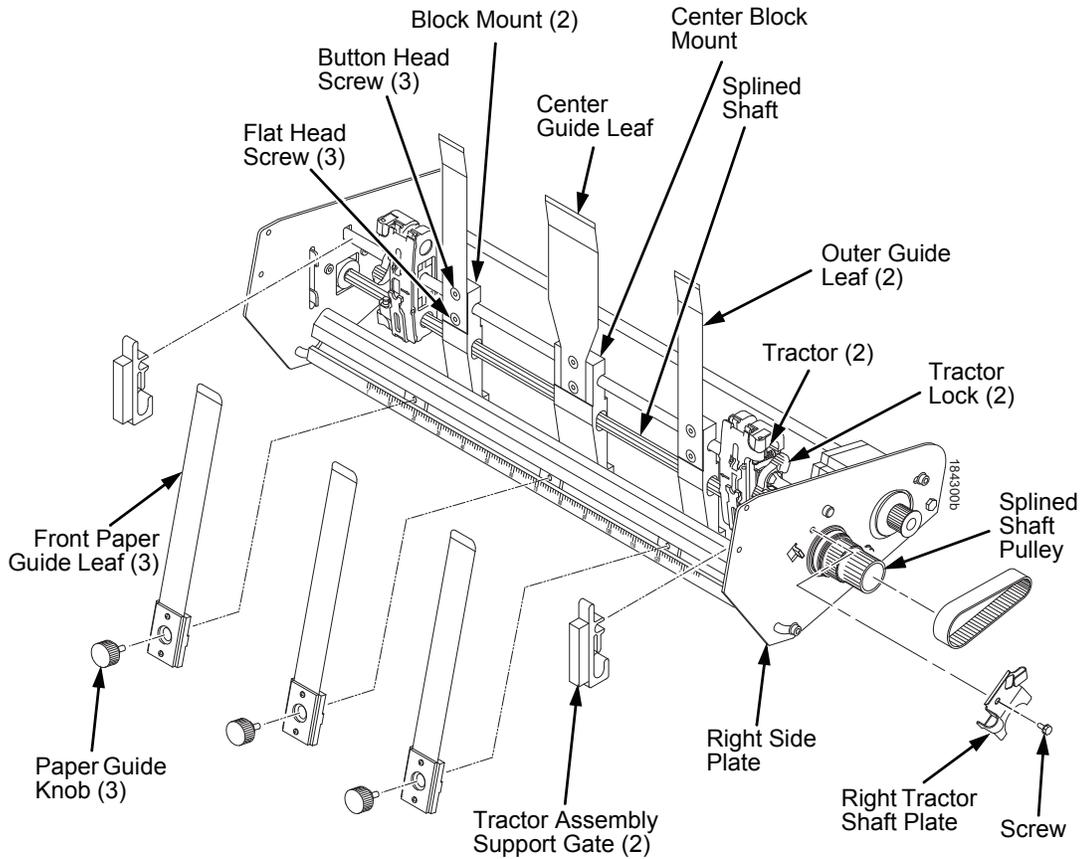
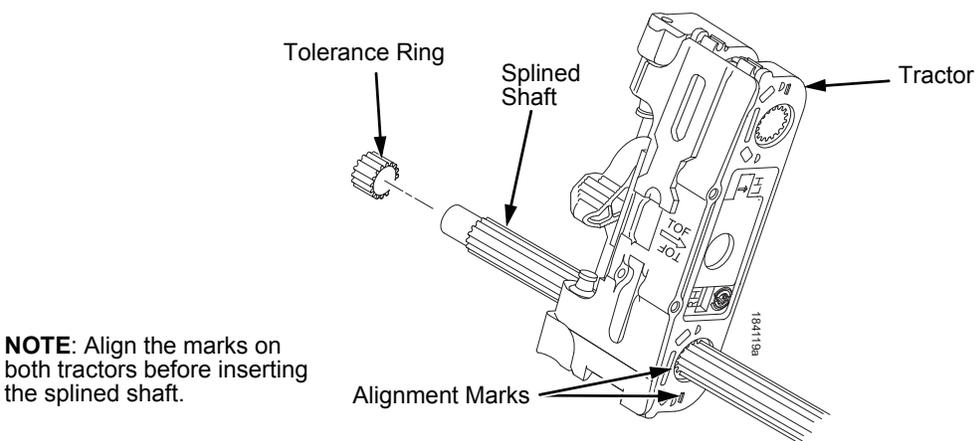

Figure 13. Removing the Paper Leaf Guides and Tractor Assembly Support Gates
Figure 14. Splined Shaft and Tractor Installation
2. Remove the center paper guide knob and center paper guide leaf. (See page 453, Figure 13.)
3. Remove the top button head screw, bottom flat head screw, and center guide leaf. (See page 453, Figure 13.)
2. Remove the left paper guide knob and the left, front paper guide leaf. (See page 453, Figure 13.)
3. Remove the top button head screw, bottom flat head screw, and left outer guide leaf. (See page 453, Figure 13.)
5. Remove the paper guide knobs and front paper guides leaves. (See Figure 13.)
7. Remove the screw securing the right tractor shaft plate and the tractor shaft plate. (See Figure 13.)
8. Slide the splined shaft out of the sealed ball bearing in the left tractor shaft plate and remove the tolerance ring from the left end of the splined shaft (page 468, items 9, 10, 15, and 17).
9. Grasp the splined shaft pulley and slide the splined shaft to the right, out of the tractors and right side plate. (See Figure 13.)
1. Position the splined shaft so the alignment marks are at the bottom on both tractors. (See Figure 14.)
2. Slide the splined shaft through the right side plate, tractors, and block mounts. Make sure the same spline passes the marked groove on each tractor. (See Figure 14.)
3. Install the tolerance ring on the left end of the splined shaft. (See Figure 14.)
4. Insert the tolerance ring lead-in portion into the sealed ball bearing in the left tractor shaft plate while sliding the ball bearing into the right side plate (page 468, items 9, 10, 15, and 26). Push the splined shaft to the left until the flange on the ball bearing is in solid contact with the right side plate. The splined shaft will protrude about 1/16 inch (1.6mm) from the ball bearing.
5. Install the right tractor shaft plate and screw (page 468, items 7 and 8) by first sliding the upper “fingers” up and against the flange on the ball bearing, then sliding the rectangular cutout over the support shaft end, then snapping the U-shaped “spring” behind the tab on the right side plate.
7. Install the paper guide knobs and front paper guide leaves. (See page 453, Figure 13.)